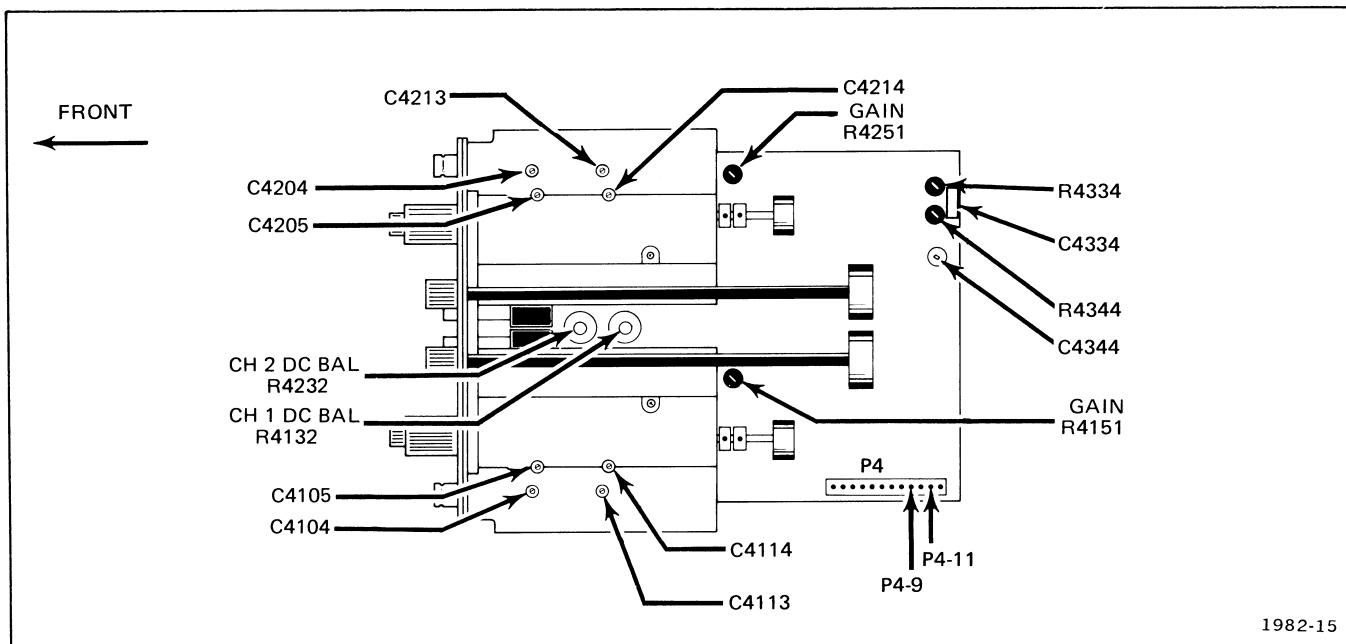
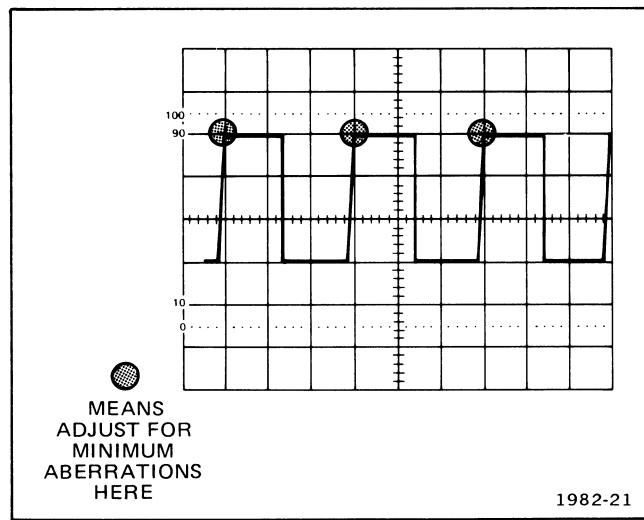

Fig. 4-4. Vertical amplifier adjustment locations (bottom view of T912).
Fig. 4-6. Display of correct (idealized) attenuator compensation.
a. ADJUST—CH 1 DC BAL, R4132 (see Fig. 4-4), for no trace shift while switching CH 1 VOLTS/DIV control between 2 mV and 10 mV.
c. ADJUST—CH 2 DC BAL, R4232 (see Fig. 4-4), for no trace shift while switching CH 2 VOLTS/DIV control between 2 mV and 10 mV.
- c. Connect digital voltmeter between P4-9 and P4-11 (see Fig. 4-4). Select range on meter for at least 500 mV reading.
- c. ADJUST—Gain, R4151 (see Fig. 4-4), for 4-division display.
e. ADJUST—Gain, R4251 (see Fig. 4-4), for 4-division display.
- e. ADJUST—R4334, C4334, R4344, C4344 (see Fig. 4-4), and C133 (see Fig. 4-2), for best front corner of waveform using low capacitance screwdriver.
c. ADJUST—C4114 (see Fig. 4-4) for best square front corner (see Fig. 4-6 for example).
e. ADJUST—C4105 (see Fig. 4-4) for best square front corner (see Fig. 4-6 for example). Disconnect test equipment.
c. ADJUST—C4214 (see Fig. 4-4) for best square front corner (see Fig. 4-6 for example).
e. ADJUST—C4205 (see Fig. 4-4) for best square front corner (see Fig. 4-6 for example). Disconnect test equipment.